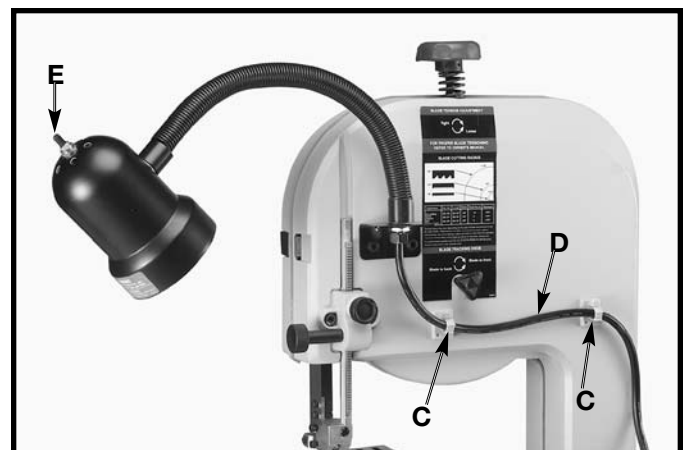

Fig. 19
2. Peel the backing from the cord clamps (C) Fig. 19, and apply one clamp at each of the locations shown. Make certain the lamp cord is routed out of the way of the blade, then secure the cord (D) to the cord clamps (C) Fig. 19.
3. The flexible lamp operates independently of the band saw. To turn the lamp on and off, rotate the switch (E) Fig. 19.